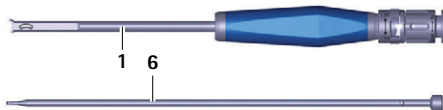

Fig. 12 Insertion instrument disassembled
- ▶ Remove the rod **6** from the tube **1**, see Fig. 12.
- ▶ Insert the rod **6** into the tube **1**, see Fig. 12.